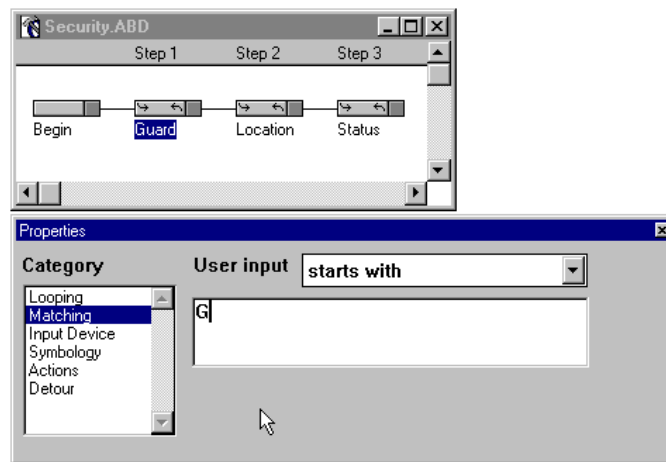

Figure 3-22 Matching Property - Starts With G
20. Click in the edit box and enter a **G** (Figure 3-22). Any entry that starts with a **G** is now an acceptable entry for the “Guard” Handler.